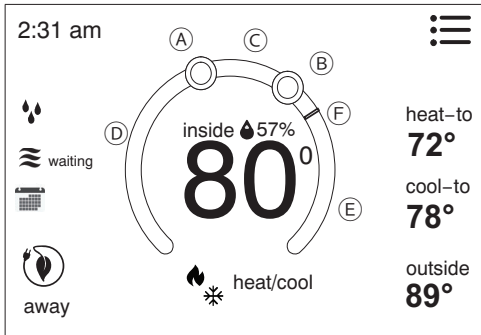

Figure 1. Temperature Dial Feature
- C. This is the location area where no system demand is active. In figure 1, the example would be any temperature between 73°F and 77°F.